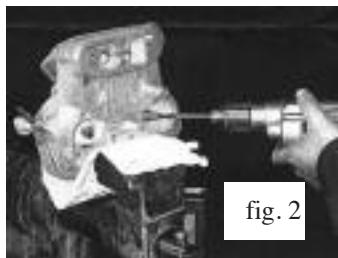

fig. 2
3. Rotate the reamer between 300 and 400 RPM **THEN** start to feed. Let the reamer cut, **DO NOT** apply too much pressure. Cutting time should be between 3 to 5 seconds. Longer cutting time will make the guide expand and result in an irregular final size. (fig. 2)